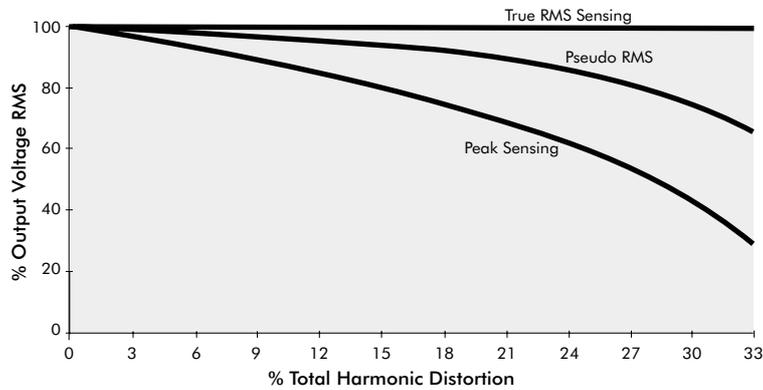

Figure 6 – Output voltage RMS against total harmonic distortion – Type 80 servo amplifier
- ◆ Output is insensitive to supply distortion (true RMS – see Figure 6)